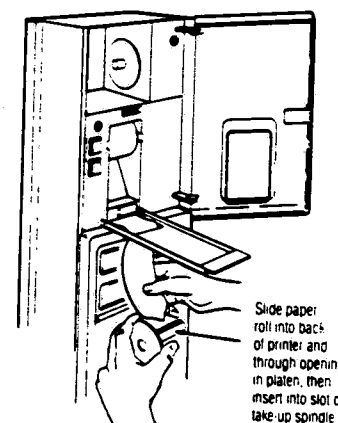

FIGURE 4-6 - Take-up Spindle Loading
12. Insert tab of new paper roll into slot of take-up spindle and allow motor to rotate the spindle to secure paper in slot (Figure 4-6).